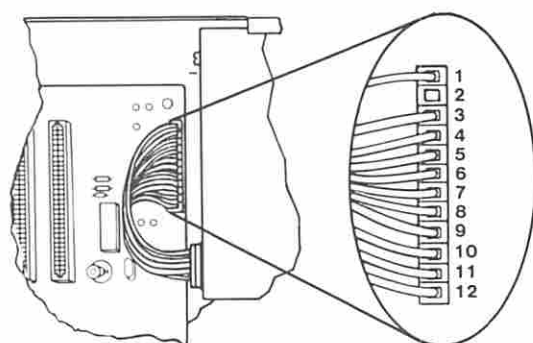

Figure 2. Expansion Board Power Connectors
- Check the voltages at the expansion board power connector, refer to Figure 2 on page 1800-4.